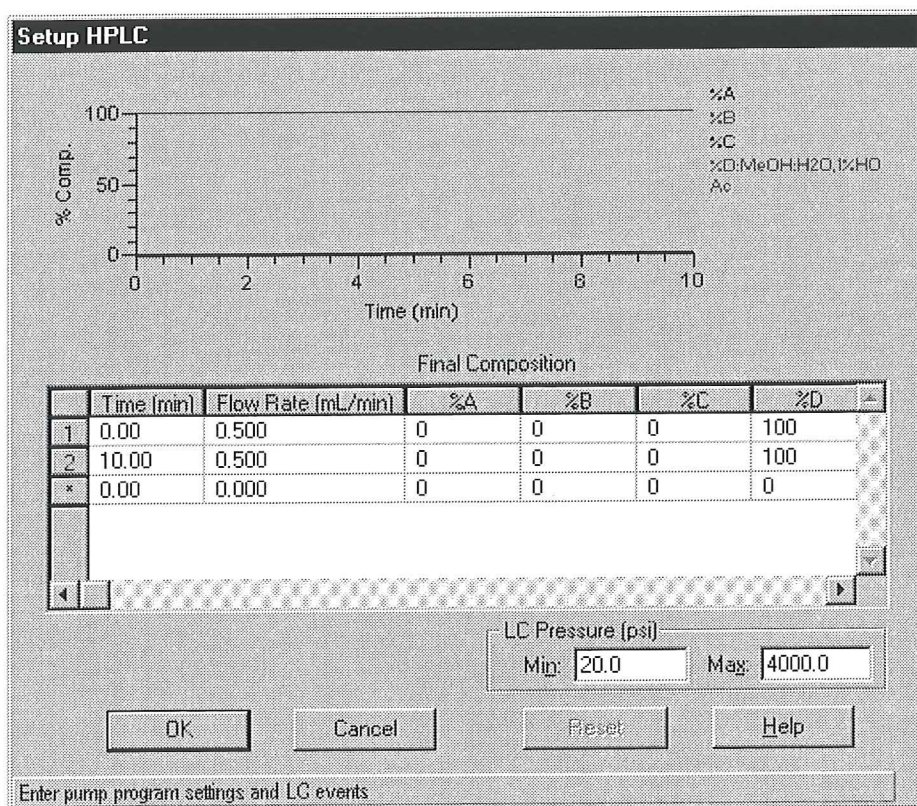

Figure 4-2. Setup HPLC dialog box, showing the settings for the reserpine experiment
Choose **Setup | HPLC Setup**. See Figure 4-2.
- Confirm that your display resembles that shown in Figure 4-2.